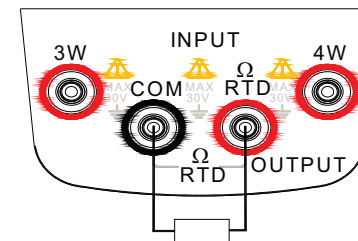

Figure 6-1 2-wire connection method
4. Insert one end of the test probe into the input jack ( INPUT ) as shown in Figure 6-1, 6-2 and 6-3, and connect the other one with the output terminal of User's meter.